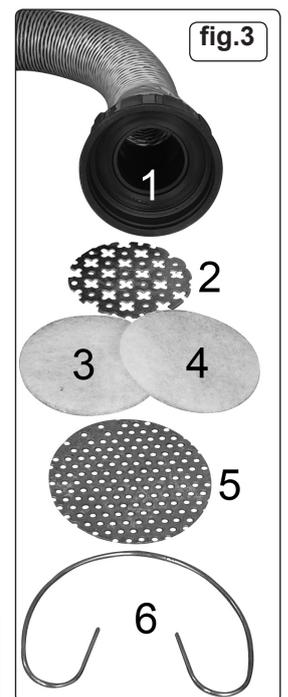

fig.3
- 5.2. Clean the ducting outlet filter once a week. Refer to fig.3. Squeeze and remove the spring clip (6). Remove the outer filter plate (5) and the two layers of filter material (3 & 4). Wash the filter material in ordinary detergent and let it dry. Place the inner grille (2) back into the filter housing (1) followed by the two filters (3 & 4). Place the outer filter plate (5) over the filters and retain all parts by squeezing and re-inserting the spring clip (6).